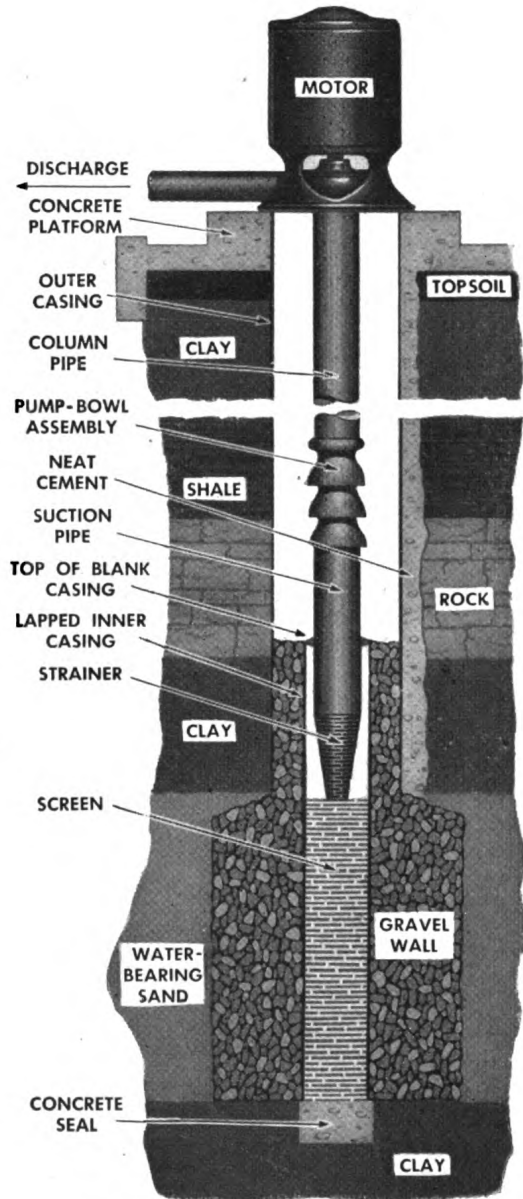

Figure 23. Underreamed rotary well.
a. UNDERREAMING. For gravel-wall rotary wells, drill a straight rotary hole and underream water-bearing sand to a diameter of 18 to 36 inches. Fill space between screen section and underreamed outside wall with clean, properly graded gravel (fig. 23). Use space between an inner and outer casing to add gravel which replaces sand removed from well during pumping operation.